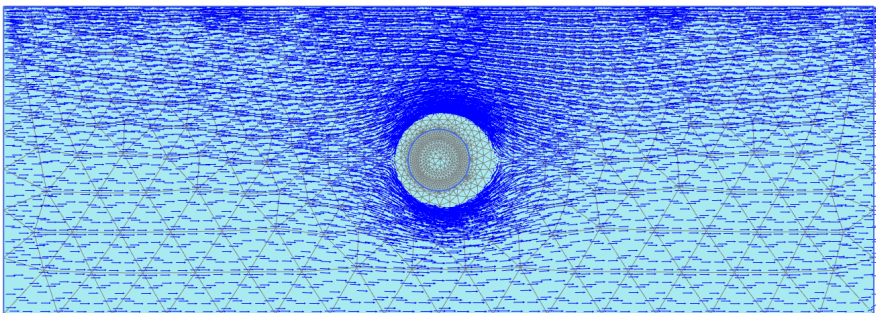

Figure 16.8 Groundwater flow field after 180 days
- Figure 16.8 shows the groundwater flow field for the last time step for the transient flow calculation. Here it is clearly noticeable that the entire tunnel area is frozen and no flow occurs.